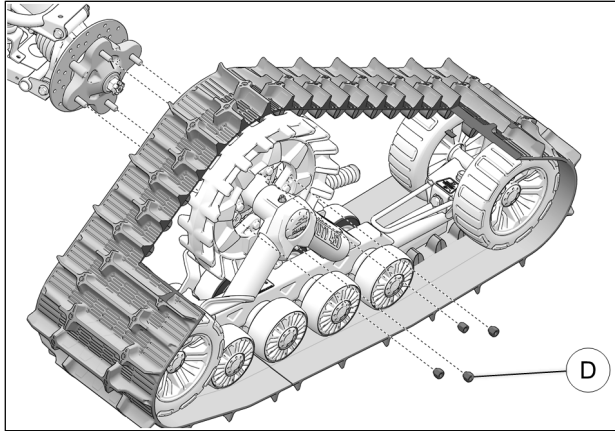

Fig. 10
10. Secure undercarriage to rear hub using the provided lug nuts (D). See Fig. 10